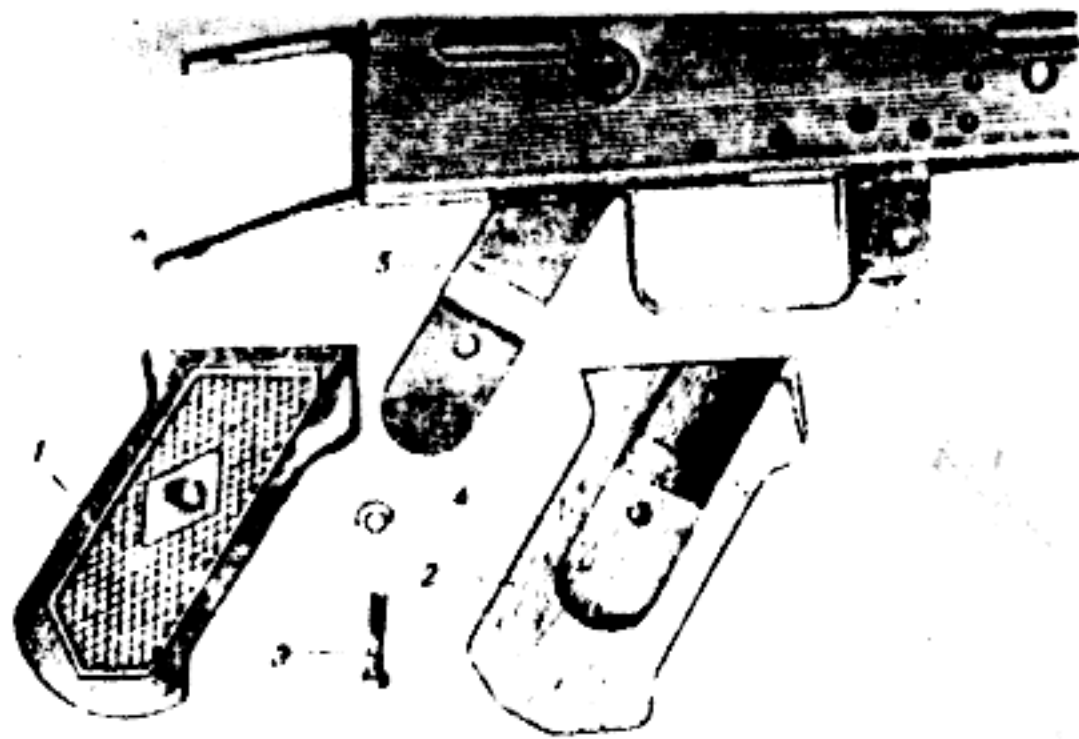

Figure 46. Pistol grip of rifle with stamped receiver.
The pistol grip is attached to its base by means of screw (4) which is threaded into the base. There are also rifles with stamped receiver in use (fig. 46); in these models, the pistol grip consists of two stocks (1 and 2). The stocks are fastened to pistol grip (5) by means of screw (3) with nut (4).